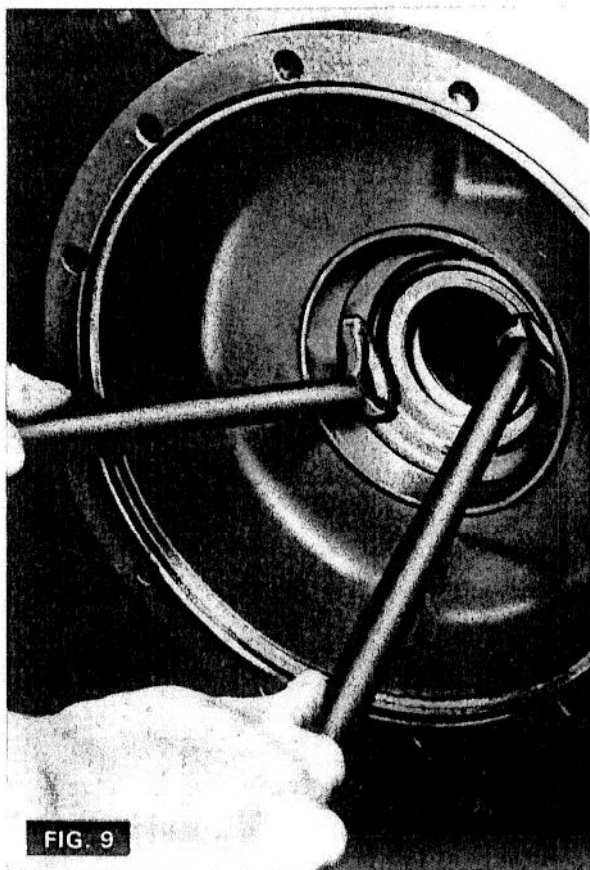

FIG. 9
4. (Fig. 9) Using pry bars, lever the epicyclic inner bearing cup out of the trumpet housing.